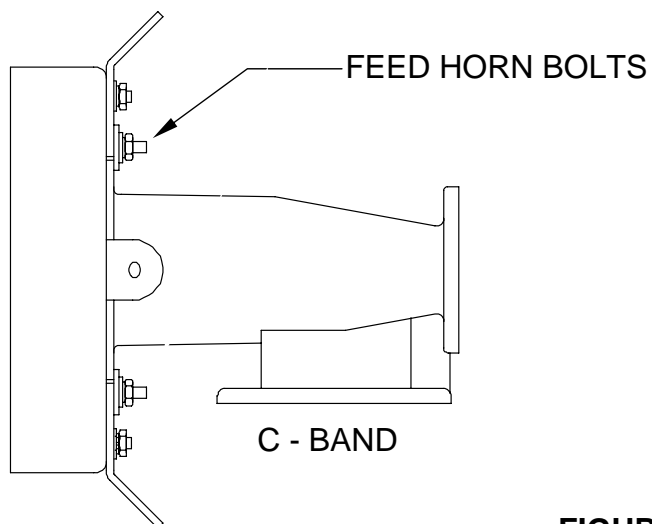

FIGURE 9.
- POLARITY ADJUSTMENT** - On C-band and Ku-band feed systems, polarity is adjusted by loosening the feed horn bolts (see figures 9 and 10) and rotating the OMT or feed horn 90 degrees, then retighten the bolts.